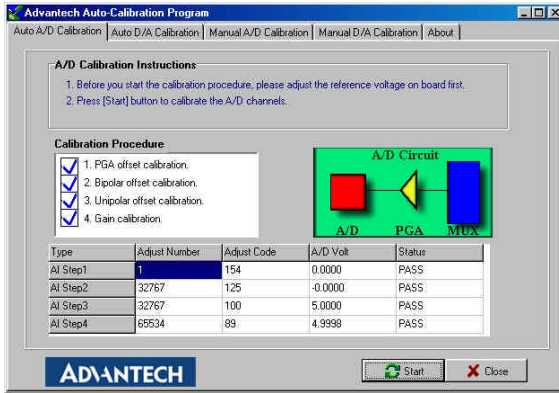

Fig. 5-8: A/D Calibration is finished
Step 8: Auto-calibration is finished. (Fig. 5-8)